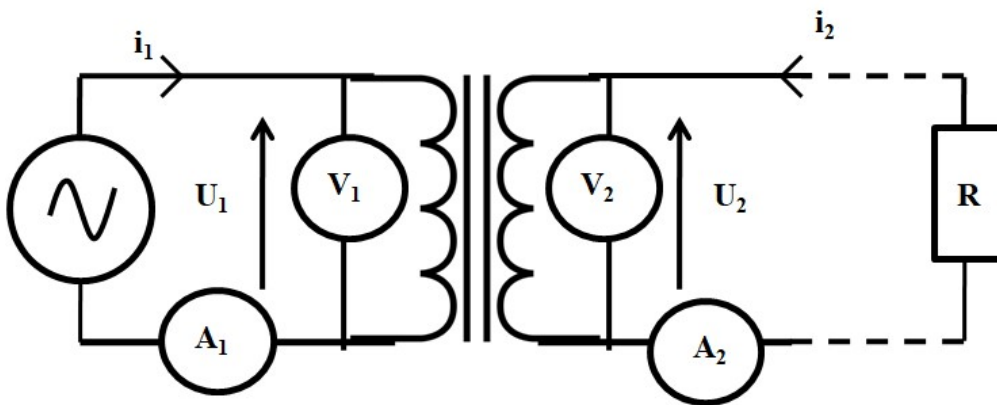

Figure 5. Ideal Transformer including voltmeters and amperimeters
Be sure that the previous steps are clear for you. Plug the cables to be able to measure the voltage and the current with the multimeters like depicted in Figure 5. **Call the teacher to check your connections.**
Plug the cables to be able to measure both voltages and currents in the primary and secondary circuits like depicted in Figure 5.
- To determine iron losses we first open the secondary circuit and we plug directly the voltmeter between the terminals of the coil C_2 (similar to figure 5 but without load). There is no current in the secondary circuit, one can not transfer energy and we have $P_2 = P_{20} = 0$. Consequently, all the power P_{10} is given to the Joule effect of the primary circuit equal to $r_1 i_{10}^2$ and to the iron losses P_{Fe} . Consequently we have: $P_{10} = r_1 i_{10}^2 + P_{Fe}$.